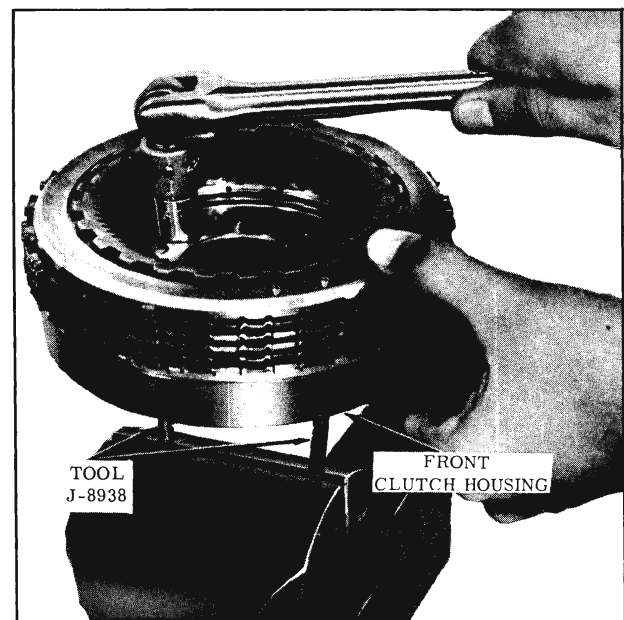

Fig. 3-258 Internal Gear Attaching Bolts
1. Install Tool J-8938, (two studs) in dowel pin holes in clutch housing assembly and secure in vise. (Fig. 3-258)